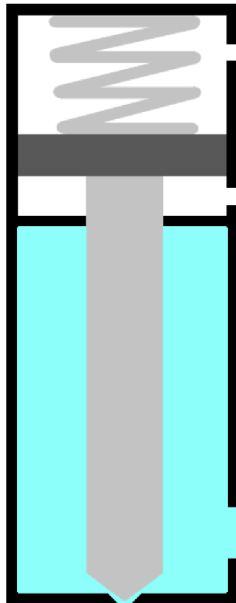
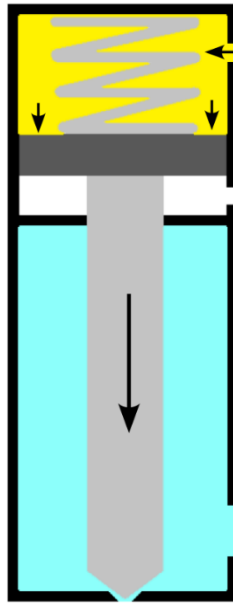
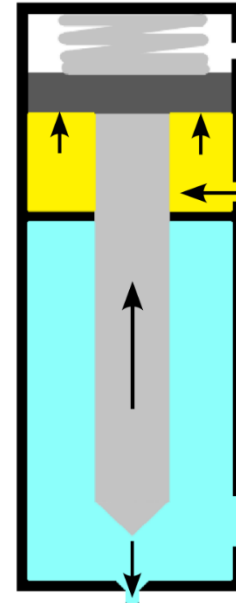

Figure 03 – Single effect resting phase
Figure 04 – Double effect resting phase
Figure 05 – Dosing phase
In the case of a simple effect, what keeps the valve closed is the spring, so the fluidic pressure must be below the pressure generated by the spring to keep the valve closed (Figure 03). The fluid is located at the fluidic inlet, the inlet of which is blocked by the pin, held in place by the spring. When the button on the handle is pressed, the PLC sends a signal to the solenoid valve to change state, to let the air enter from the dosing inlet, raising the piston and, consequently, also the needle and letting the fluid pass to the nozzle (Figure 05).
In the case of double acting, the working mode is like that of single acting, except that, in addition to the spring to keep the valve closed, there is a pneumatic pressure from the closing inlet of the valve (Figure 04). This is used if you must work with fluidic pressures higher than that exerted by the spring.
- The fluid is under pressure in the fluidic inlet; in the case of a single effect, with only the spring pushing to close the fluid outlet (Figure 03), in the case of a double effect, with also the pneumatic pressure (Figure 04);
- The needle lifts, allowing the fluid to exit (Figure 05);